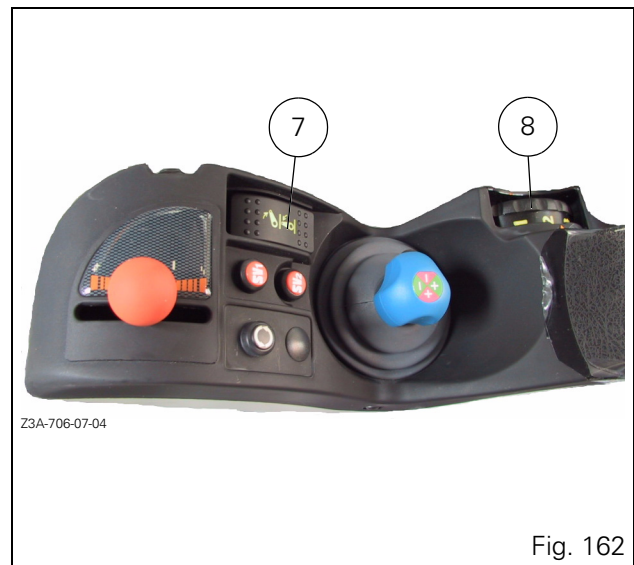

Fig. 162
- rear linkage control unlocked and in lowering position (7 Fig. 162),
- rear linkage height / depth setting control set to between 3 and 4 (8 Fig. 162).